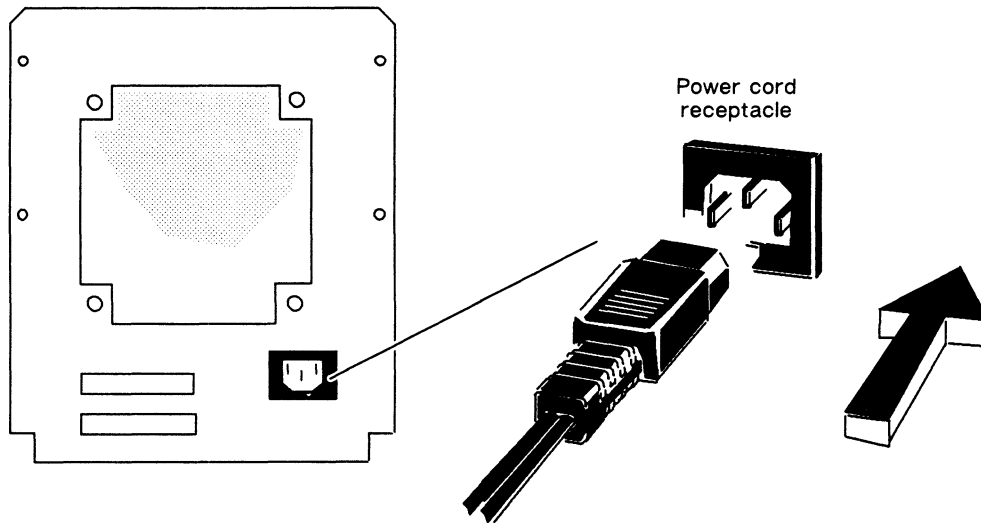

Figure 2-22 Connecting the Mass-Storage Subsystem Power Cord
2. Plug the power cord into the receptacle on the back of the mass-storage subsystem, as shown in Figure 2-22.